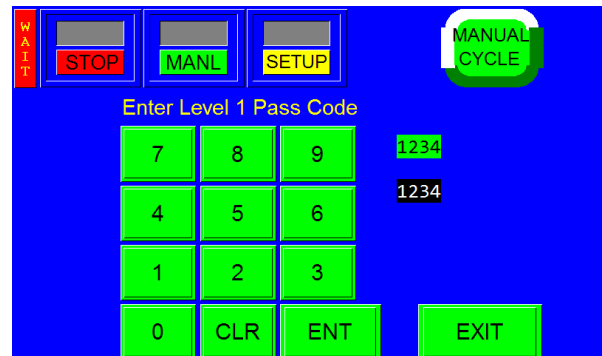

Figure 3-36
The screen is protected from access with a Level 1 pass code. The pass code is set by default (from the factory) to 1001. See Figure 3-36. This code can and should be changed when the system is put into operation. See section 3.37 for Pass Code Setup.
1. Level 1: This is the highest level pass code which prevents operators from accessing the Technical Assistance functions of the machine. The default pass code, when shipped from the factory, is 1001. See Figure 3-36.